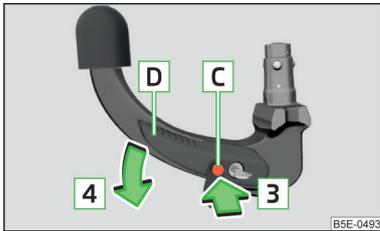

Fig. 289
- › Push release pin **C** in the direction of arrow **3** to the stop, and simultaneously push operating lever **D** in the direction of arrow **4** to the stop » Fig. 289.